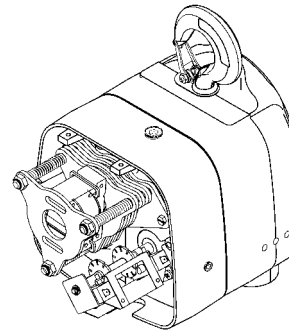

Figure 7 - Electrical Panel Removed
2. Remove the electrical panel by removing the stand-off screws (See Figures 16 & 17). The limit switch and brake are now accessible as shown in Figure 7.